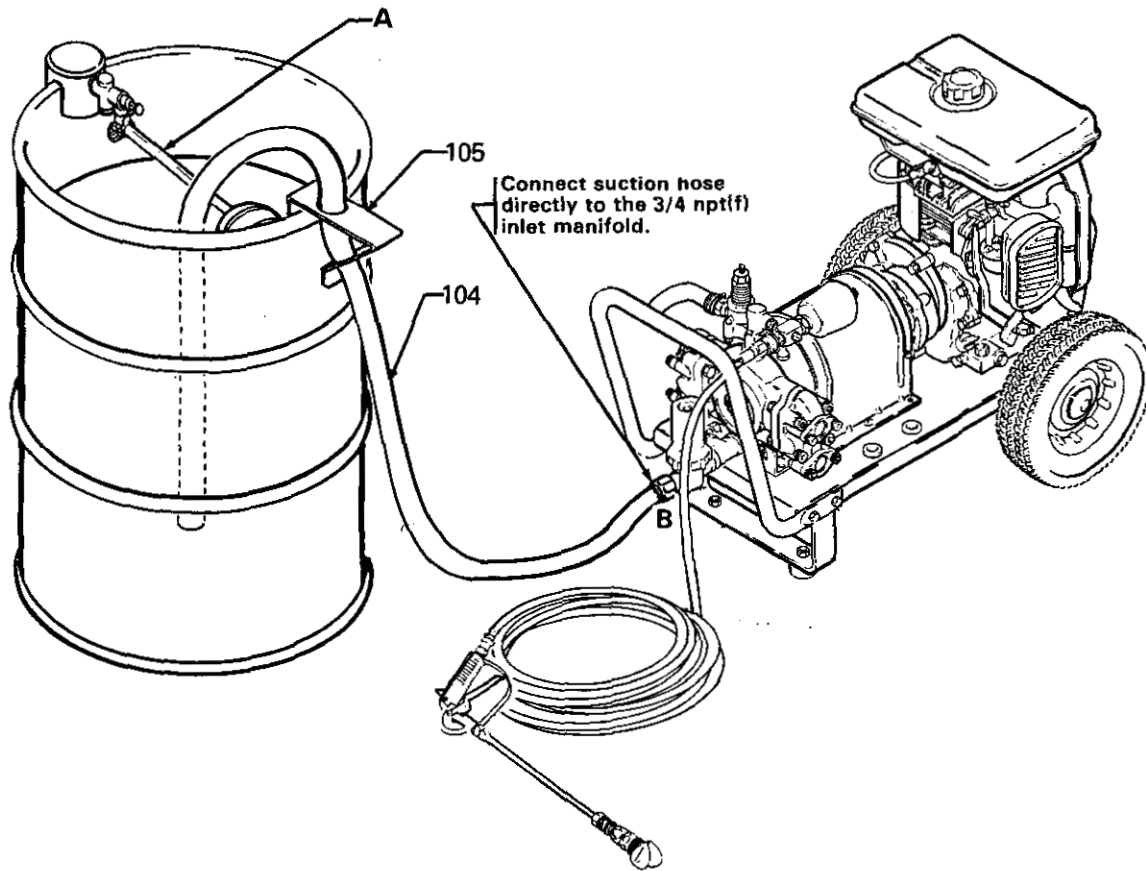

Fig 1
NOTE: Reference numbers and letters in parentheses in the text refer to Figures 1, 3, 4 and the Parts Drawing.
Remove swivel fitting (81) at water filter manifold (83) and screw siphon hose (104) into manifold. Squeeze clamp (105) together and route siphon hose through it. Release clamp and hook it over edge of drum so the top lip of clamp rests on the inside of drum and the lower lip rests against the outside of drum. See Fig 1. The hose should be between 2-4 inches (50-100 mm) off bottom of drum.